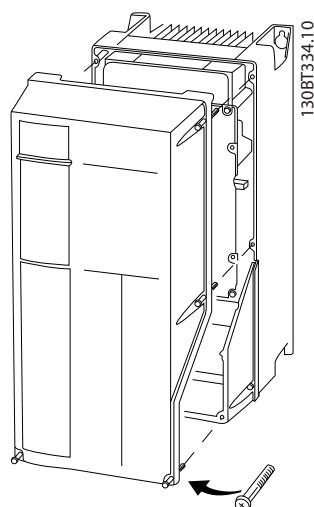

Figure 2.10 Control Wiring Access for A4, A5, B1, B2, C1 and C2 Enclosures
- Or remove front cover by loosening attaching screws. See Figure 2.10.